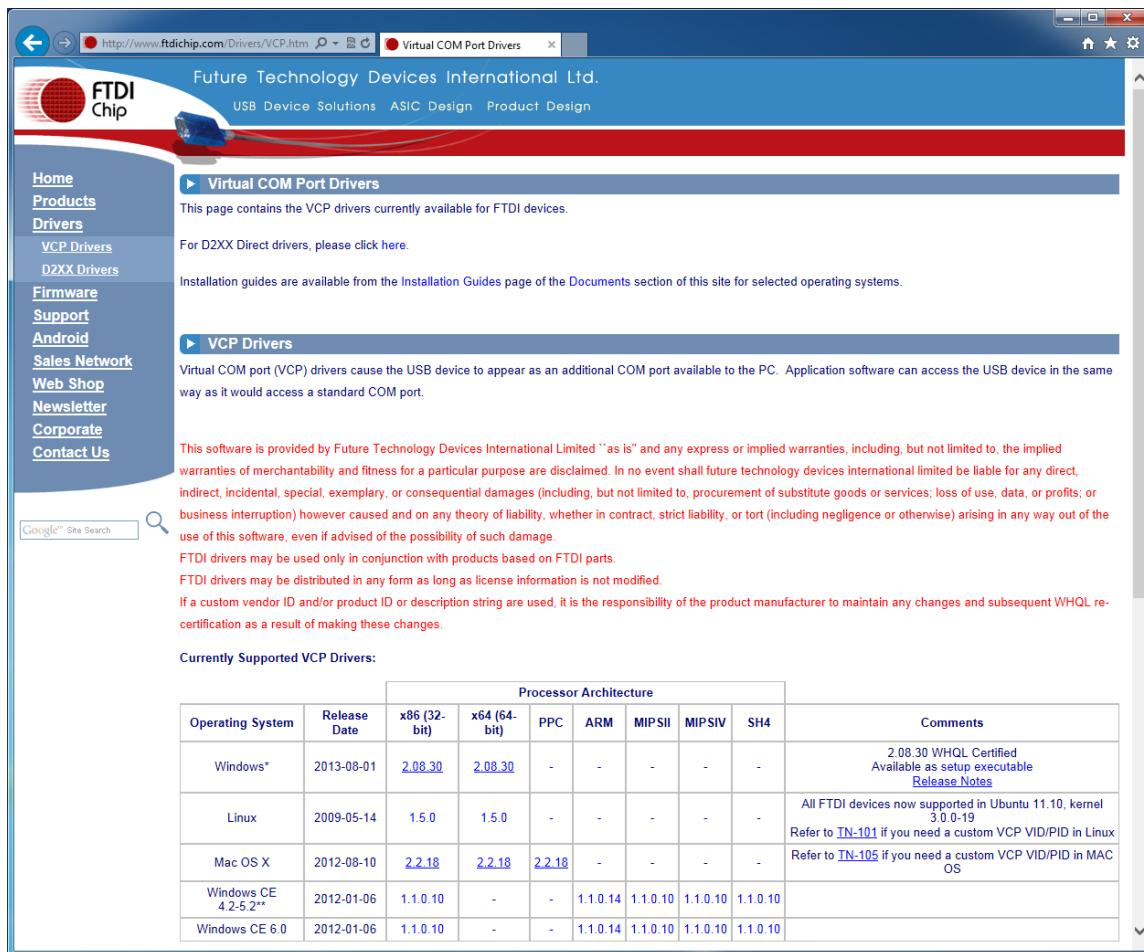

Figure 3-4 USB Serial Converter Driver Download
1. The USB Serial Converter drivers for the Dock can be downloaded from the FTDI Chip Drivers webpage (see Figure 3-4). Download and install the driver to match your operating system.